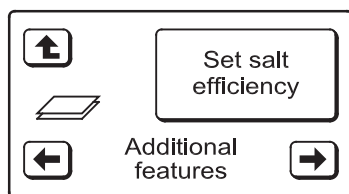

FIG. 65
5. Press the LEFT (←) button to display the screen shown in Figure 65.